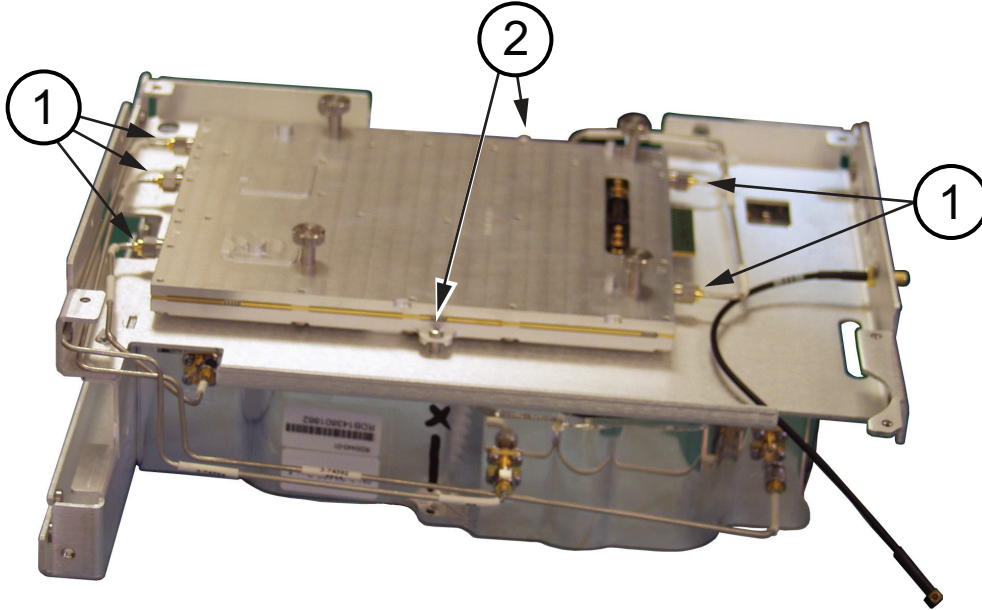

Figure 5-37. RF Board in Chassis Tray
6. Use 2 screws, size M3, 6 mm, pan head, to secure the RF Board to chassis tray. See item 2 in Figure 5-37 on page 5-36.
8. Connect the semi-rigid cables to J2 and J3 of the RF Board, then connect them to the forward and reverse terminals of the filter. See item 1 in Figure 5-37. Torque the connections to $0.9 \text{ N} \cdot \text{m}$ ($8 \text{ lbf} \cdot \text{in}$).
9. Connect the semi-rigid cables to J1, J4, and J5 of the RF Board, then connect them loosely to the filter. See item 1 in Figure 5-37.